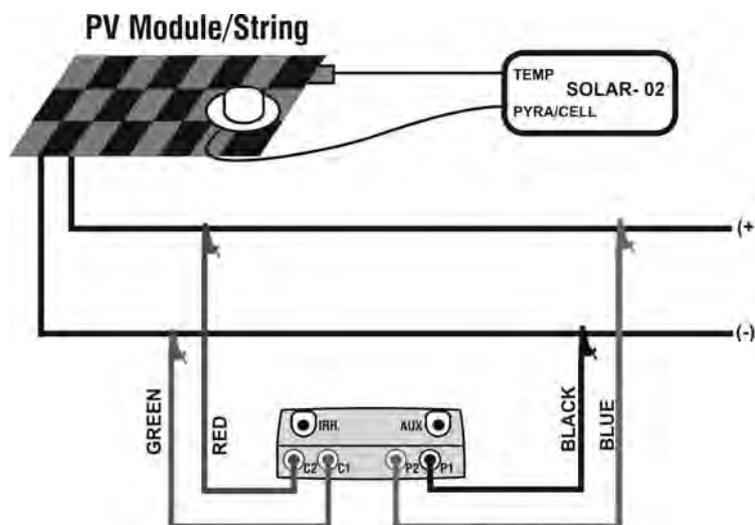

Fig. 9: Connection of units to the PV module/string
21. Connect the meter to the module/string under test as shown in Fig.9. In particular, connect the negative output pole of module/string to P1, C1 input terminals and the positive output pole of module/string to P2, C2 input terminals. In **Auto** activation mode is recommended the use of KITKELVIN optional accessory